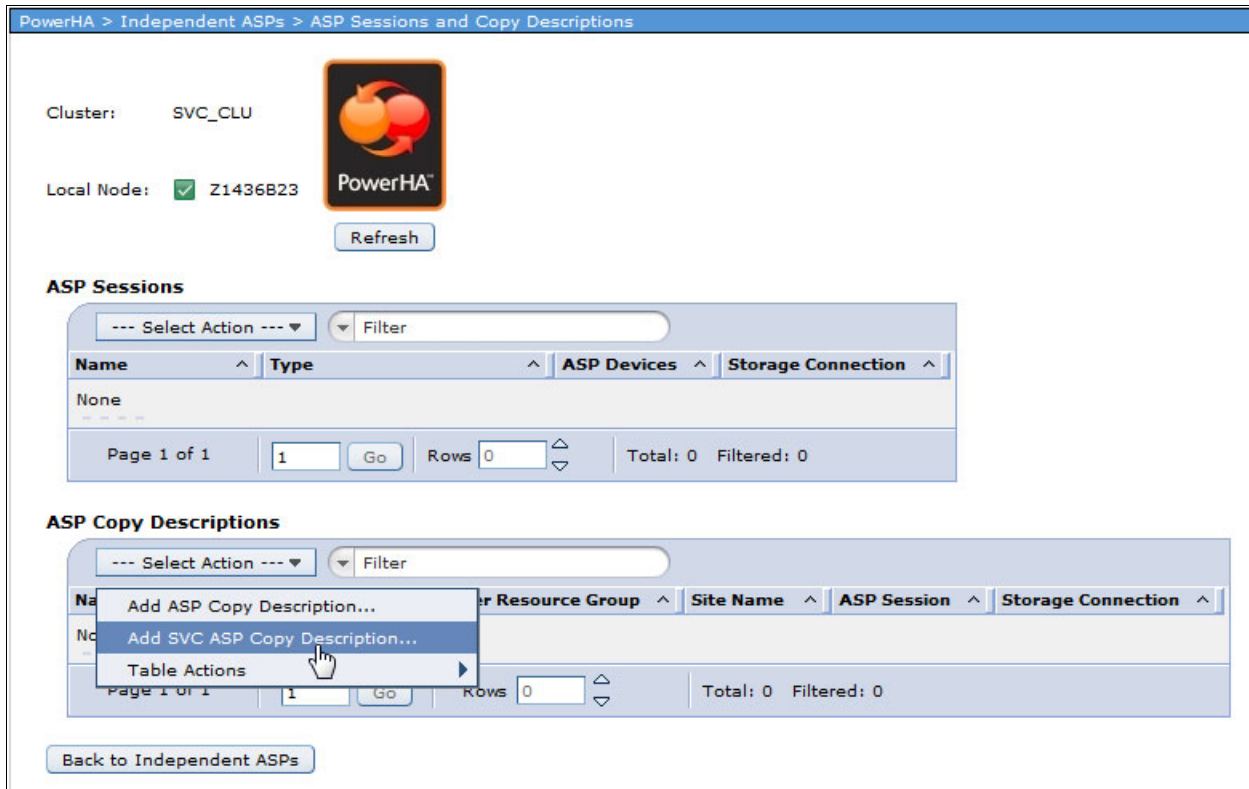

Figure 4-35 Adding an SAN Volume Controller ASP Copy description
31. In the ASP Sessions and Copy Descriptions window, select **Add SVC ASP Copy Description** from the Select Action pull-down menu in the ASP Copy Descriptions section, as shown in Figure 4-35. This option is used when the storage attached is a member of the IBM Storwize family.